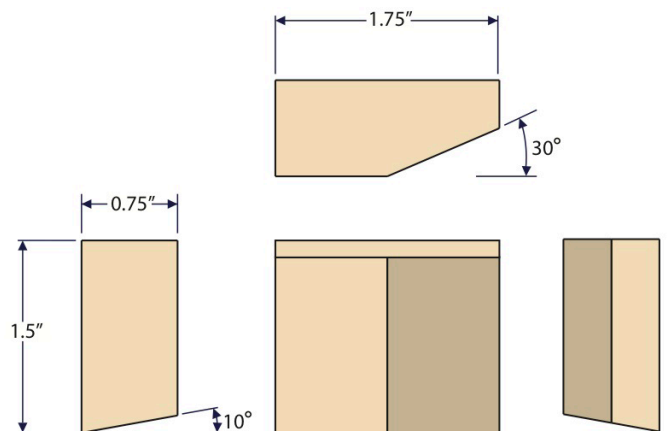

Figure 3: wooden wedge, LED mount
- four (4) orange diffused LEDs
- one (1) 10-Ohm resistor
- two (2) wooden wedges to hold LEDs (1.5" x 1.75" x 3/4") (figure 3)
- two (2) plywood side covers (1.5" x 1.75" x 1/4")
- two (2) plywood top covers (1.75" x 1.75" x 1/4")
- two (2) plywood back covers (1.5" x 1.75" x 1/4") and (1.5" x 2.75" x 1/4")
- two (2) top (1.5" x 1.75") and two (2) side (1.5" x 1.75") silver cardboard reflectors
- eight (8) 3/4" 8-32 wood screws for clipboard and back cover
- four (4) 1/2" 8-32 wood screws for side and top cover
1. Cut wooden wedges and top, side, and back cover pieces to the correct dimensions (Figures 3, 9).